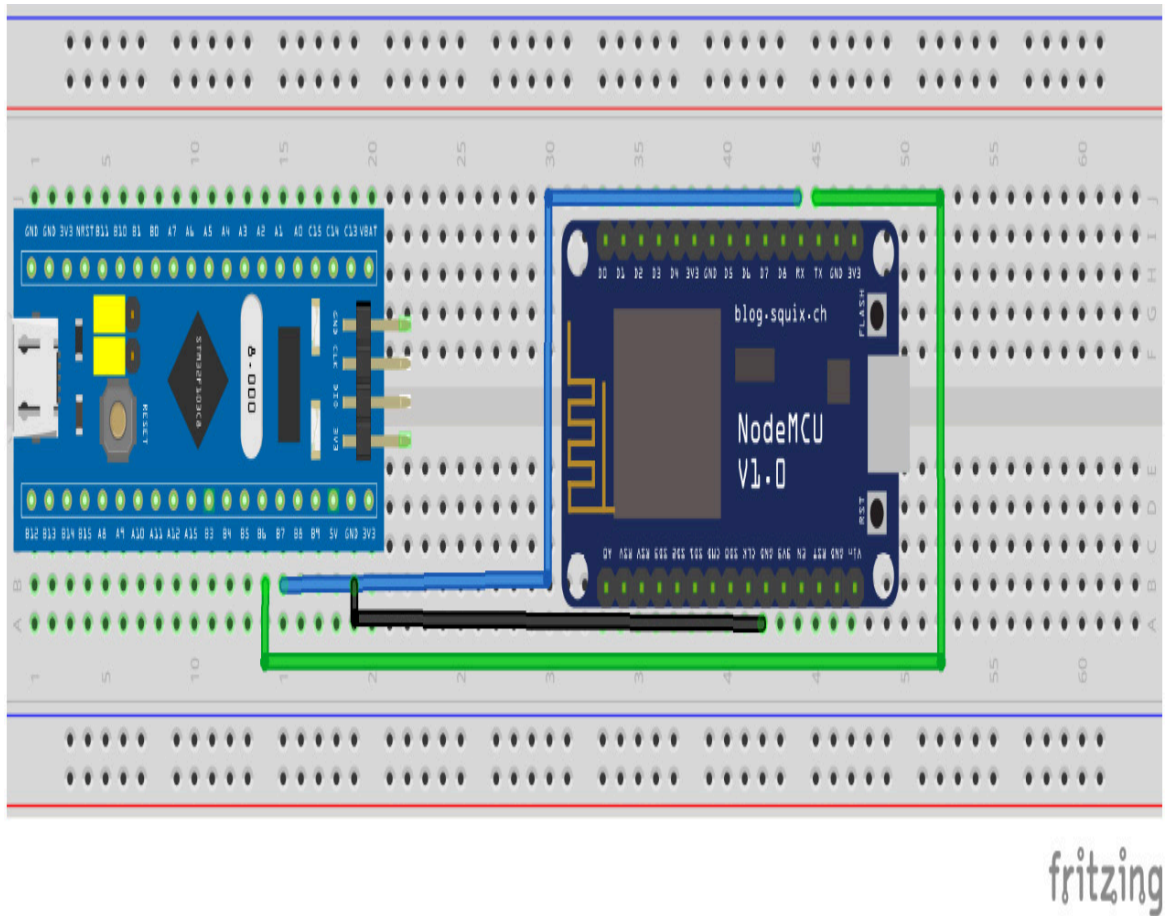
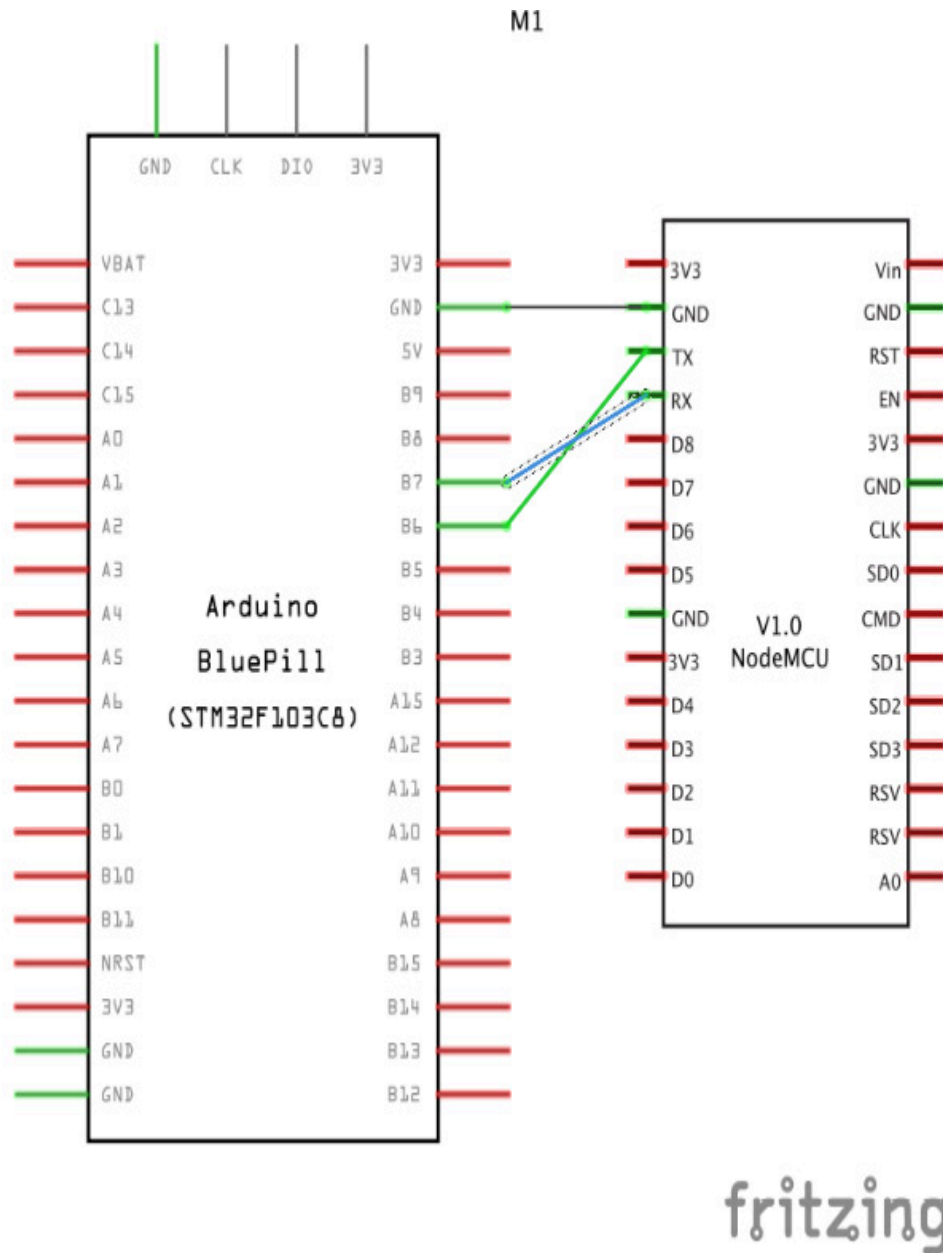

Figure 11.11 – Circuit for microcontroller serial communication
Figure 11.12 – Schematics for microcontroller serial communication
3. To complete the communication between the NodeMCU and the STM32, it will be necessary to add the additional connections shown in *Figure 11.11* and *Figure 11.12*:
*Figure 11.12* shows the schematics diagram for the circuit interfacing between the STM32 and the NodeMCU microcontrollers: